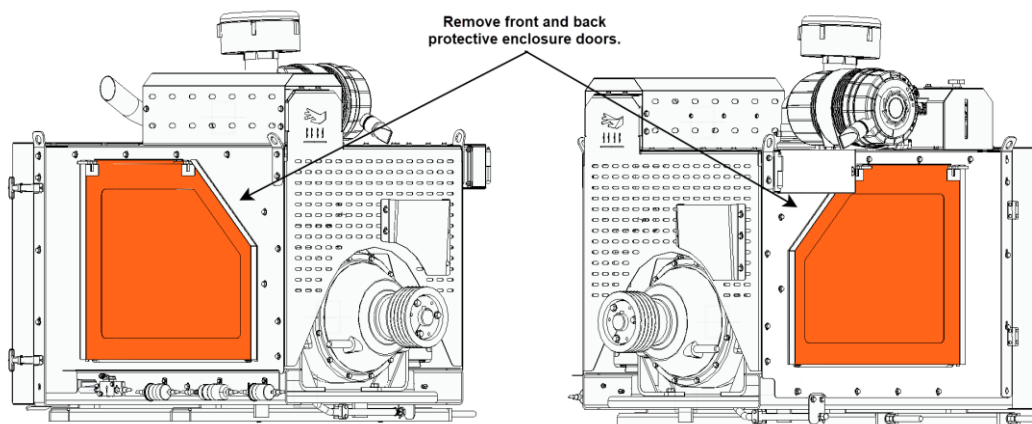

Figure 1
- 2) Remove protective enclosure doors from Engine casing. See Figure 1